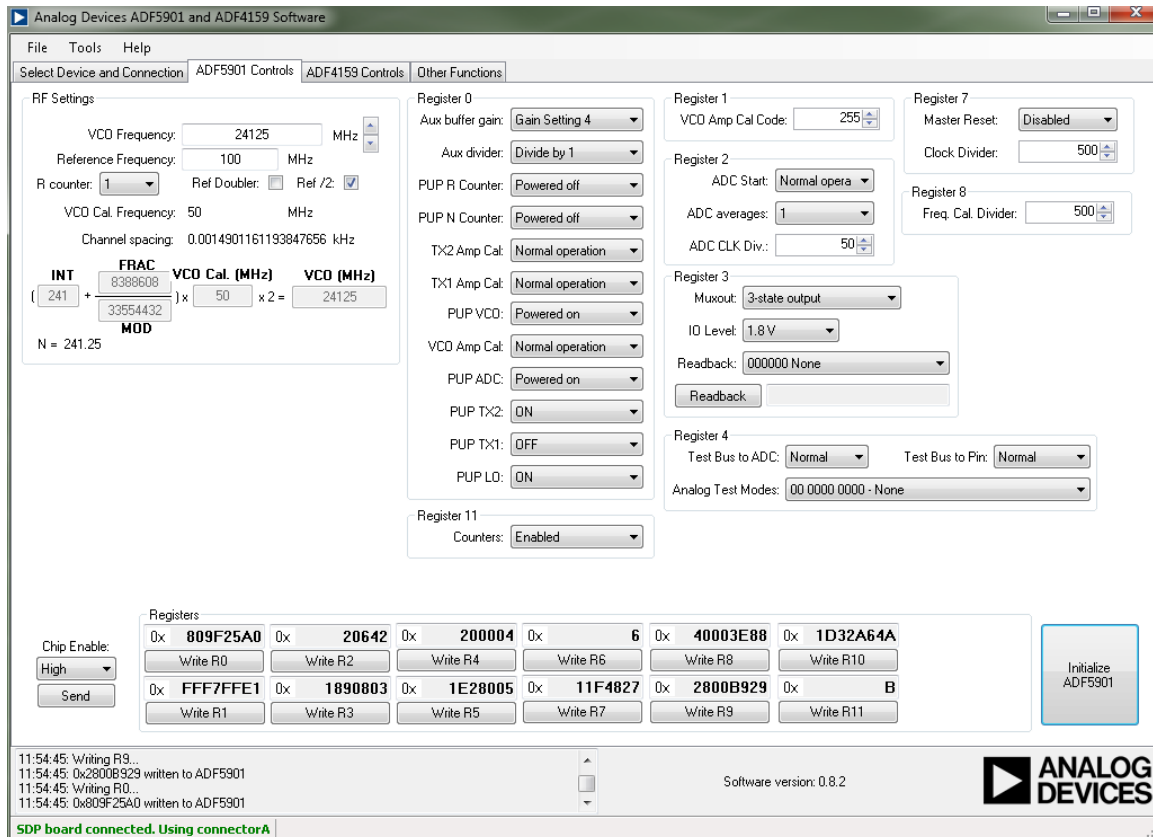

Figure 3. Software Front Panel Display—**ADF5901 Controls**
10. Click the ADF5901 Controls tab and click **Initialize ADF5901** (see Figure 3).
To control the **ADF5901** settings (see Figure 3), select the **ADF5901 Controls** tab.
To set the calibration frequency for the **ADF5901**, go to the **RF Settings** section shown in Figure 3 under the **ADF5901 Controls** tab. Set the frequency to the center of the frequency band. Type the desired output frequency in the **VCO Frequency** text box (in MHz).